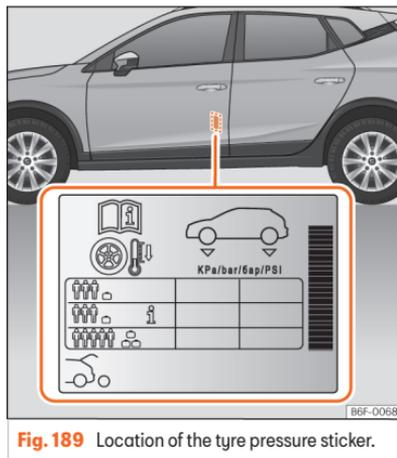

Fig. 189 Location of the tyre pressure sticker.
- Adjust tyre pressure to the load being carried by the vehicle »» Fig. 189.
The values of the tyre pressure are shown on the sticker label located on the read frame of the front left door »» Fig. 189.
The tyre pressure must be adjusted according to the load the vehicle is carrying. If the vehicle is going to be fully loaded, increase the tyre pressure to the maximum load value shown on the sticker label »» Fig. 189.
In the case of a minimised temporary spare wheel (125/70 R16 or 125/70 R18) inflate to a pressure of 4,2 bar as indicated on the tyre pressure label »» Fig. 189.
Depending on the vehicle, tyre pressure can be adjusted to medium load to improve driving comfort [tyre pressure **i** »» Fig. 189]. When driving with comfort tyre pressure fuel consumption may increase slightly.
- **The driver is responsible for ensuring that all of the vehicle tyres are correctly inflated to the right pressure. The recommended tyre pressure is indicated on the label »» Fig. 189.**
- **Tyre pressure should be that indicated on the label when the tyres are cold at all times »» Fig. 189.**